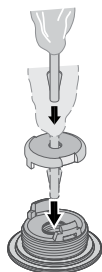

Figure 8: Push tether pin through from the top. Pull the head until the fins hook in into place.
12. Remove elbow adapter lid and push the tether pin through from the top. From the bottom of the elbow adapter lid, pull the head of the tether pin until the fins hook it into place. Reinstall the elbow adapter lid on the elbow adapter. See Figure 8.